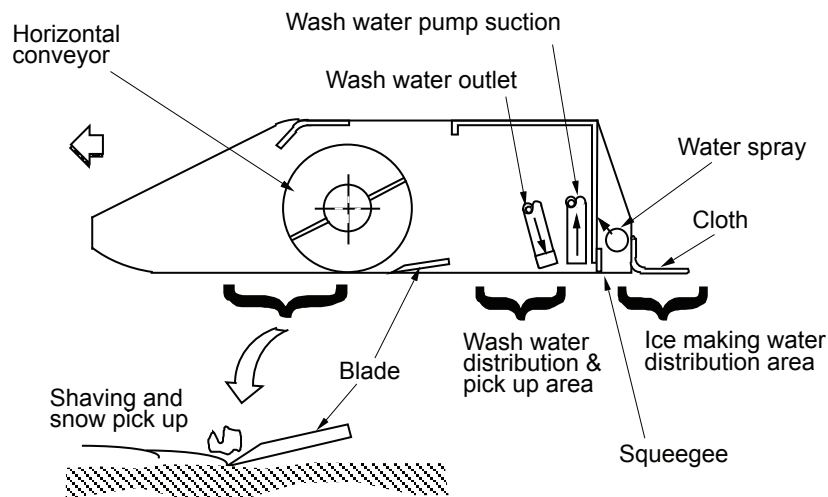

Figure 7.3 *Resurfacing Procedures*
- Raise the blade off (or out) of the ice by turning the blade adjustment handwheel, rotating the handwheel counter-clockwise. This will allow the water to pass under the blade and accumulate at the water pump suction pipe. (Figure 7.3);